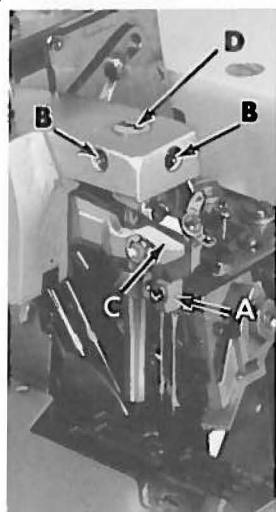
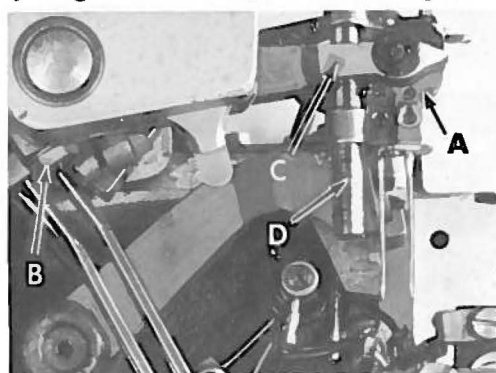
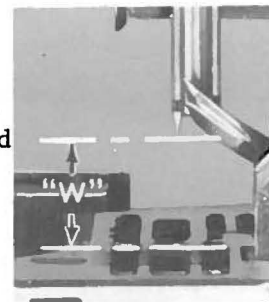

Fig. 5
Fig. 6
Fig. 7
With throat plate assembled in position, the needles should center in the throat plate needle slots (left to right). The needle head (A, Figs. 5 and 6) can be repositioned by loosening set screws (B, Fig. 5) and binder screw (B, Fig. 6) in needle drive lever (C, Figs. 5 and 6); then; simultaneously turning needle head guide bar (D) which is an eccentric and sliding the needle drive lever (C) to the left or right on needle rock shaft as required to alleviate bind.
When proper left to right needle position is obtained, tighten set screws (B, Fig. 5) securely and tighten screw (B, Fig. 6) lightly.
Needle Drive lever (C, Fig. 5 and 6) must also be positioned to set height of needles above throat plate which should be 7/16 inch (11.11 mm) on Styles 39800 CA and CB; 17/32 inch (13.49 mm) on Styles 39800 CP, CQ, CX, CY, VCP, VCQ, VCX, VCY with needles at top of stroke (W, Fig. 7). Tap the needle drive lever (C, Figs. 5 and 6) lightly up or down to obtain desired needle height. Needle gauge No. 21227 DD can be used by placing it on top of the throat plate and bringing the needle head bottom to rest on top of the gauge. This will have the needles at the bottom of their stroke. Note that the gauge has separate heights, one for high, the other for low capacity machines. Tighten screw (B, Fig. 6) securely.